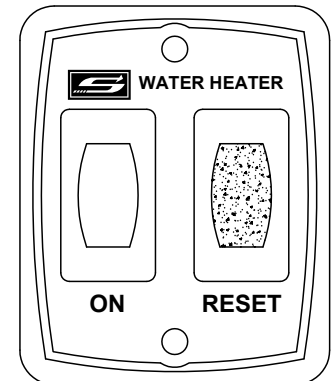

Figure 8A
- Turn switch to "ON" position. If the burner does not light, the system will automatically attempt two more tries for ignition before lockout. See Figure 8A.